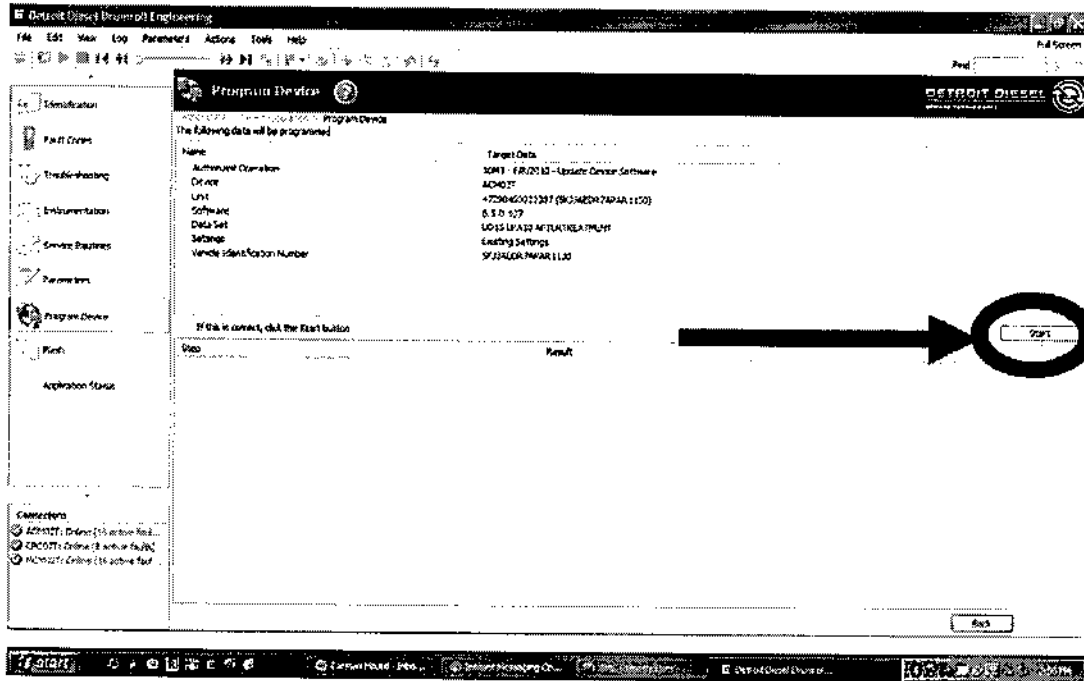

Figure 3 – Beginning Of Programming
9. You will see a screen similar to Figure 3. You will not have to select the individual module, or software level, like was done for previous programming. Click the "Start" button to begin programming the ACM.
12. You will now be at the screen in Figure 3, except it will be for the CPC. You will not have to select the individual module, or software level, like was done for previous programming. Click the “Start” button to begin programming the CPC.
15. You will now be at the screen in Figure 3, except it will be for the MCM. You will not have to select the individual module, or software level, like was done for previous programming. Click the “Start” button to begin programming the MCM.